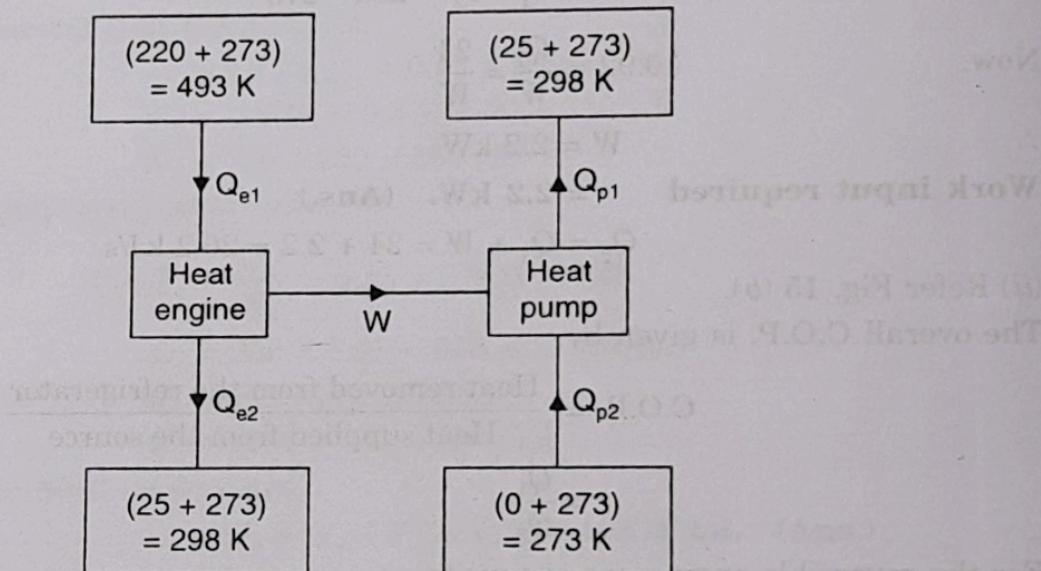

Fig. 16
**Solution.** (i) Fig. 16 shows the arrangement of the system.